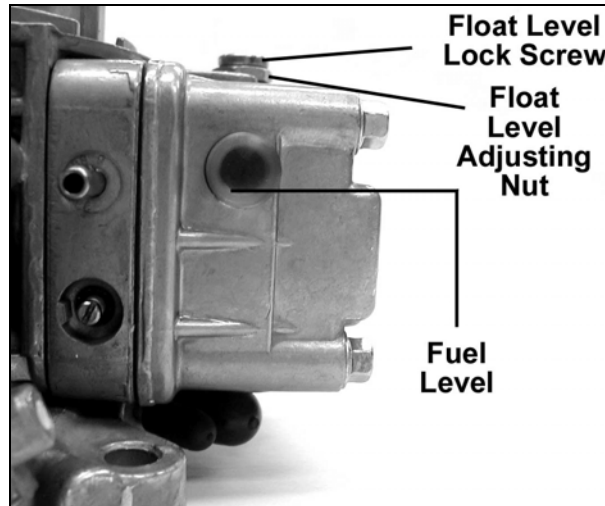

Figure 12
2. Observe the sight plug for the fuel level. If none is seen, the level is too low. If it is higher than the bottom of the sight window, it is too high. **NOTE:** A properly set float level will have the fuel level located at the bottom edge of the sight window, as shown by the line in Figure 12.